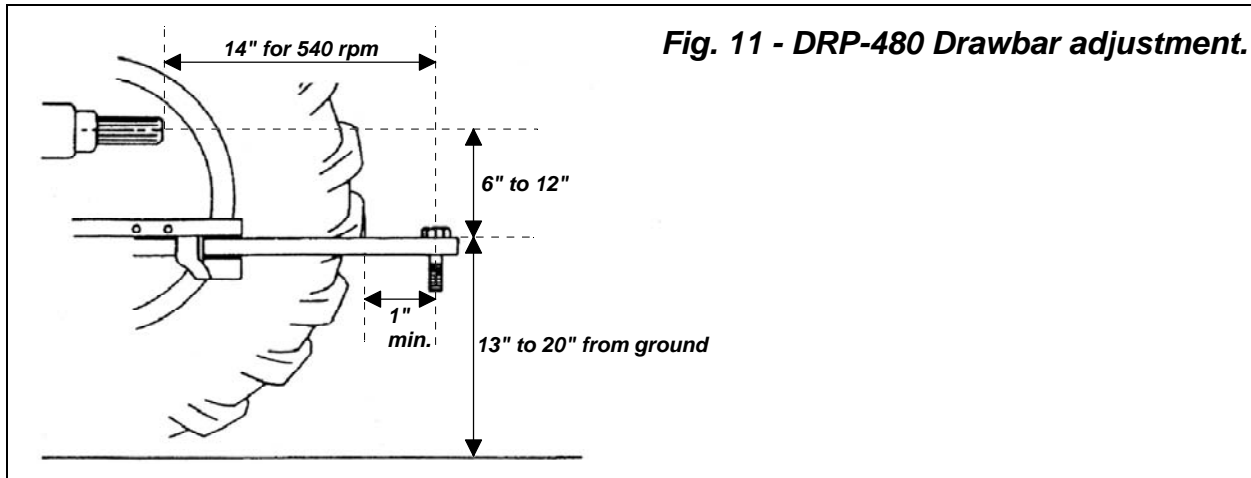

Fig. 11 - DRP-480 Drawbar adjustment.
2. On tedder model DRP-480, position the tractor drawbar (**see fig. 11**). Remove the hitch pin. Back up the tractor to the tedder. Align hitch pin holes in tractor drawbar and tedder. **Turn off the tractor engine.** Install hitch pin and fasten it with a cotter pin.
On pull type tedder model DRP-480, always make sure to adjust the tractor drawbar as specified to ASAE standards to prevent failures (**see fig. 11**). An improperly set hitch could subject the driveline's universal joints to undue stress.